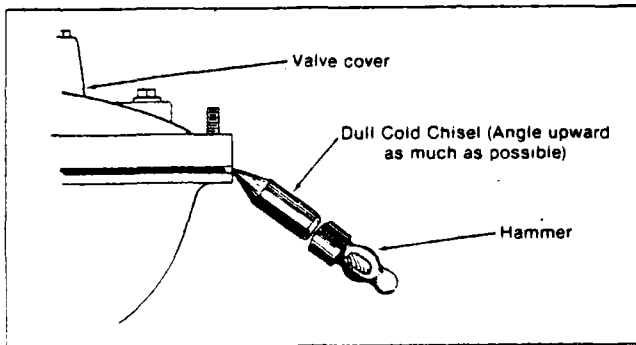
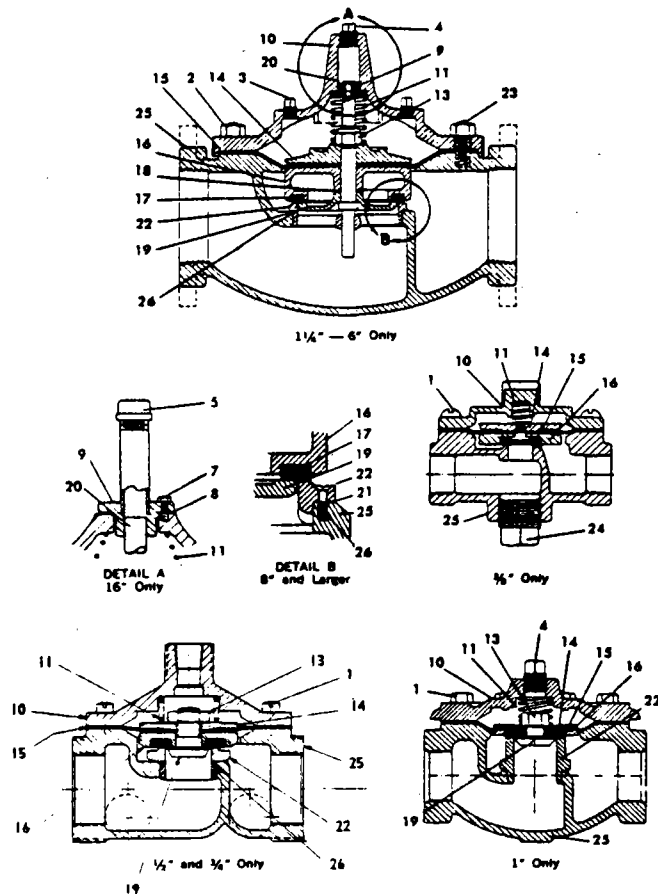

FIGURE 4
FIGURE 6
2. Remove cover nuts (2) Figure 6 and remove cover. If the valve has been in service for any length of time, chances are the cover will have to be loosened by driving upward along the edge of the cover with a dull cold chisel. See Figure 4. When block and tackle or a power hoist is to be used to lift valve cover insert proper size eye bolt in place of the center cover plug (4) Figure 6. Pull cover straight up to keep from damaging bottom seat and stem.